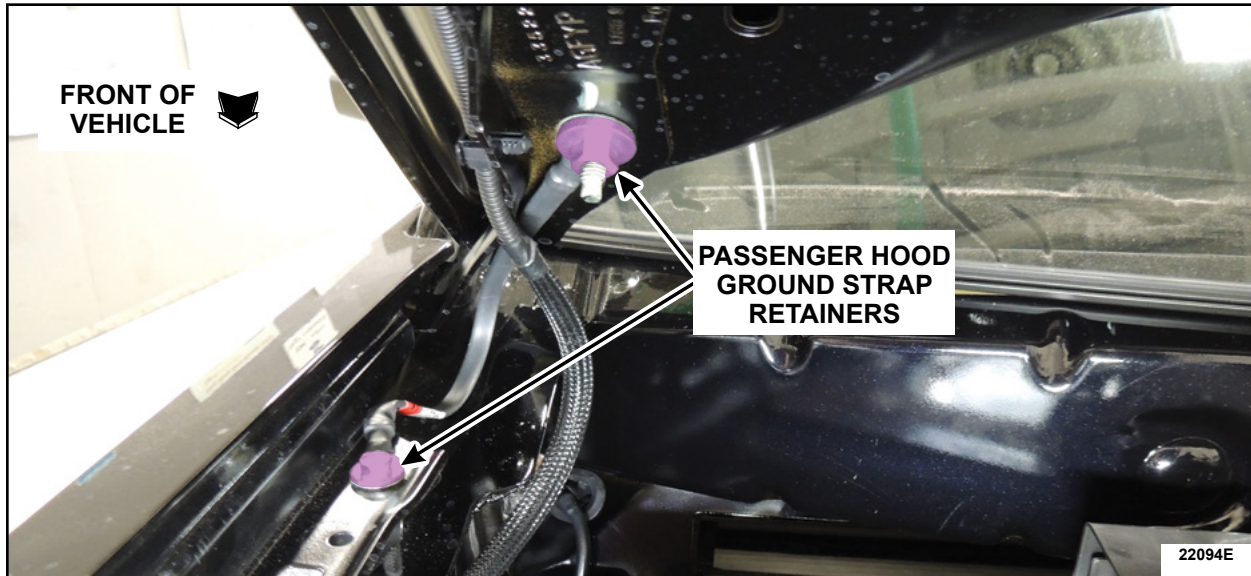

FIGURE 5
11. Tighten the passenger side ground strap retainers. See Figure 5.